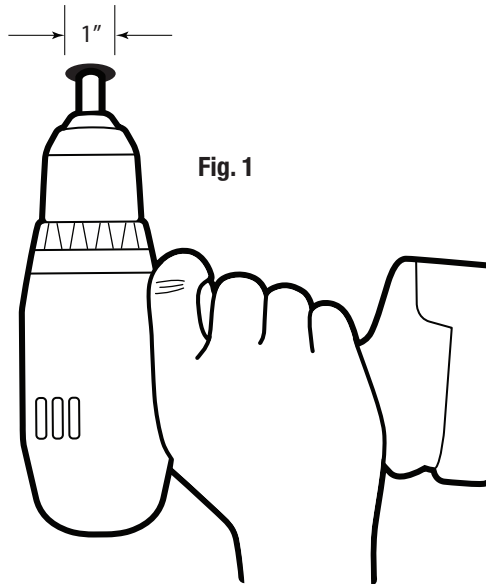

Fig. 1
1. SlimPuck Minis provide niche illumination. Perfectly suited for small spaces, installation is as simple as drilling a 1" hole (**Fig. 1**), feeding wires through that hole, and then pushing the puck up into the hole (**Fig. 2**). Mounting springs will capture the puck and hold it snugly.